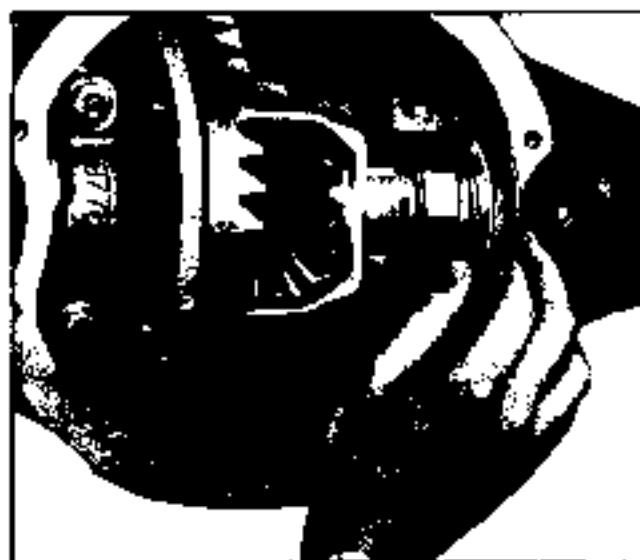

Fig. 4A-46 Installing Two Service Shims
4. Subtract .365" (total of two .170" service spacers plus .025" gauging space) from total shim pack removed on disassembly. Select two shims totaling this amount and position both between right bearing race and service spacer. Be sure left bearing race and spacer are against left housing of carrier (Fig. 4A-46).